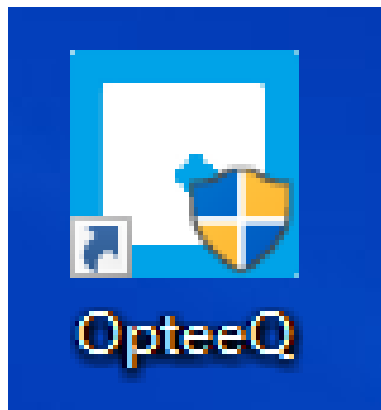

Figure 1.11: Step 11 - Desktop Icon of Programmer Software
Step 11: After the setup is finished following the above setup steps, an icon of this software will appear on the computer desktop, as shown in Figure 1.11.